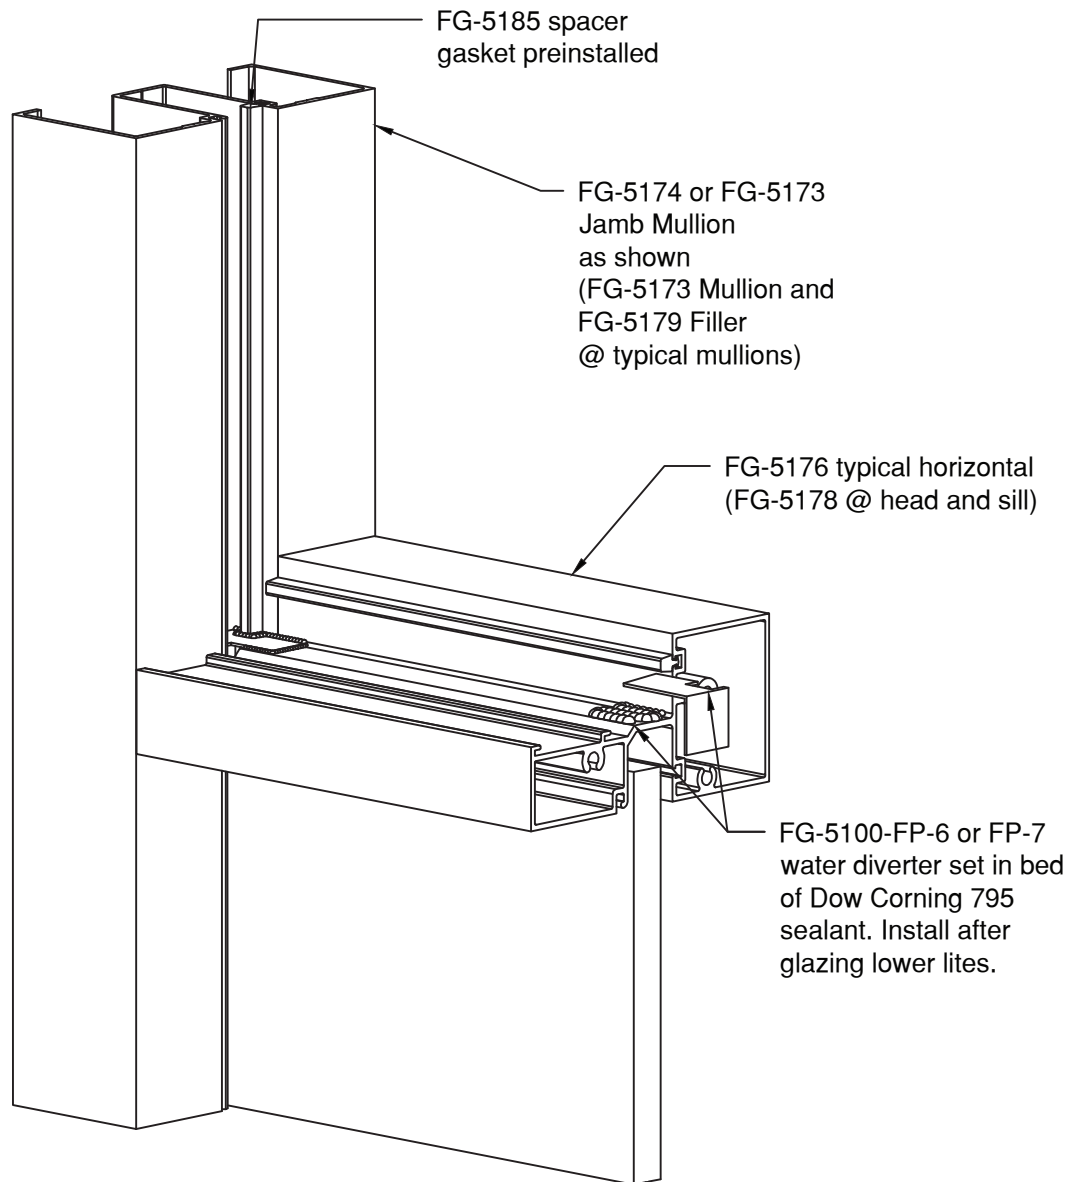
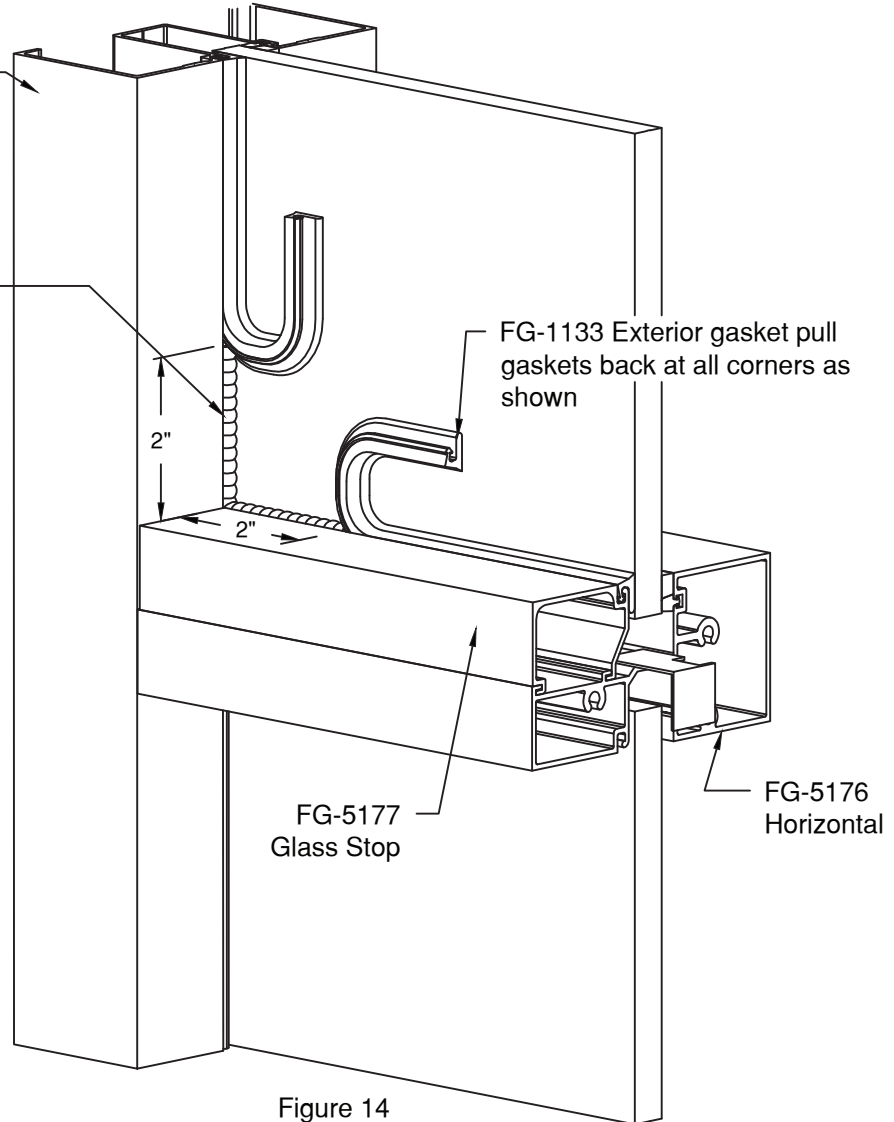
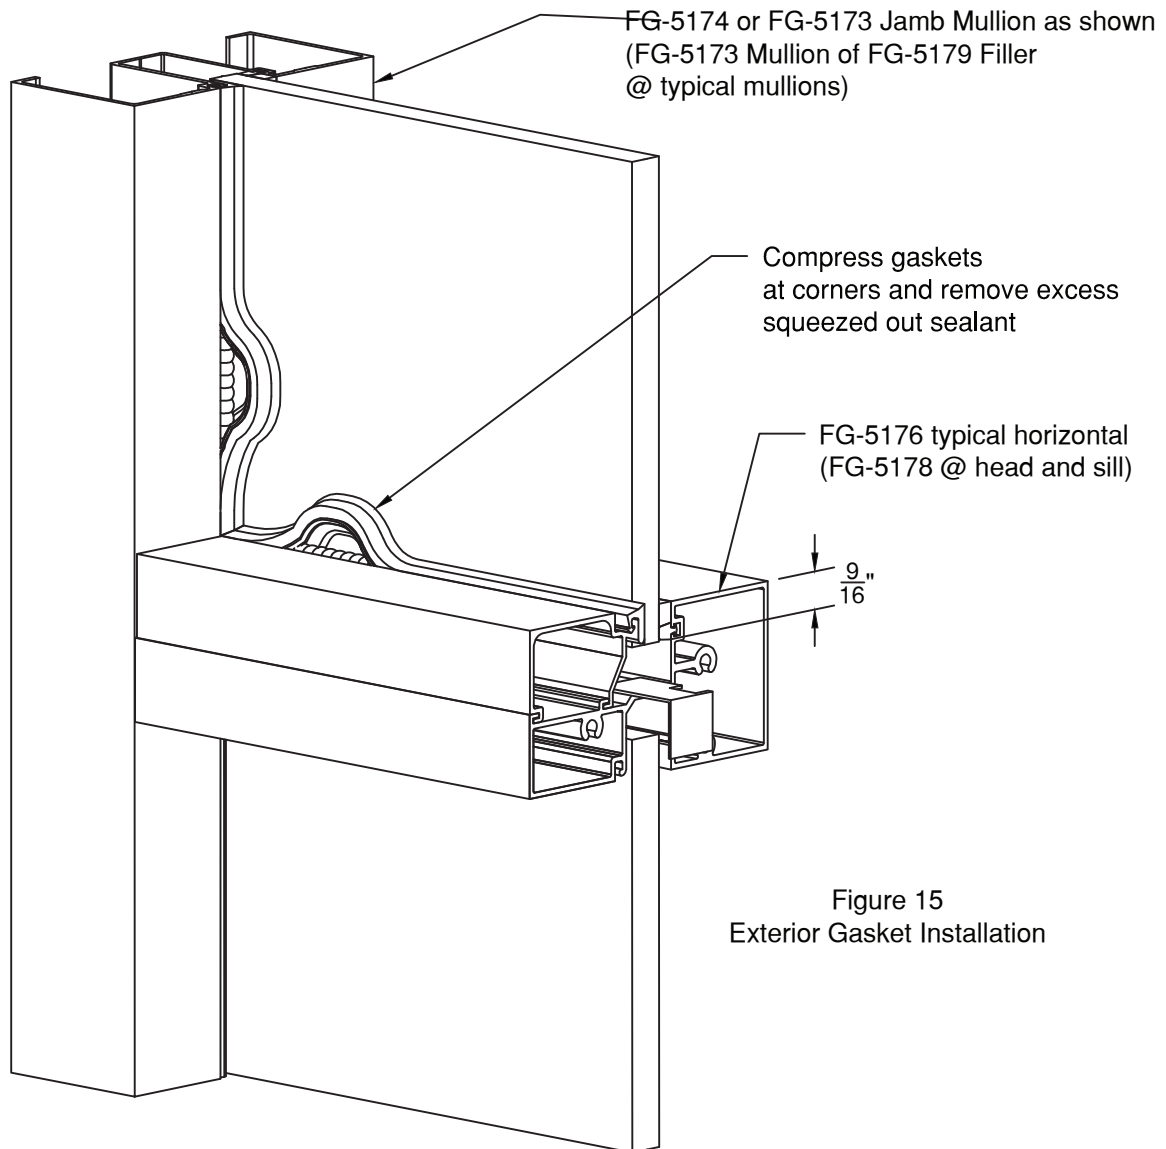

Figure 13
Figure 14
Figure 15
- 4W.1.2 Install water diverters see **Figure 13** after lower lite is in position.
- 4W.2.4 Cut gaskets a minimum of 1/8" per foot longer than daylight opening to provide for adequate compression. as shown at **Figure 14 detail A.**
- 4W.2.5 After gaskets are pressed in place. Pull gasket from pocket as shown in Figure 13 Page 16. Clean glass and gaskets a minimum of 2" from each end with isopropyl alcohol. Apply Dow Corning 795/995 sealant see Figure 14. Push gaskets into reglet, **See Figure 15 on Page 18.**